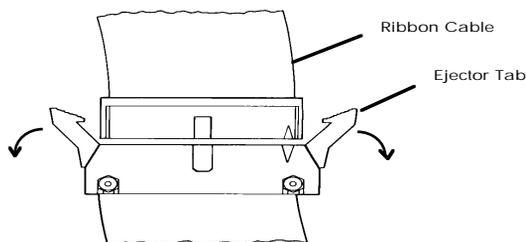

Figure 5-2 Disconnecting the Ribbon Cable
3. Disconnect the ribbon cable by pushing the ejector tabs apart (Figure 5-2). Set the front panel aside. Let the cable hang freely until it is time to reassemble.